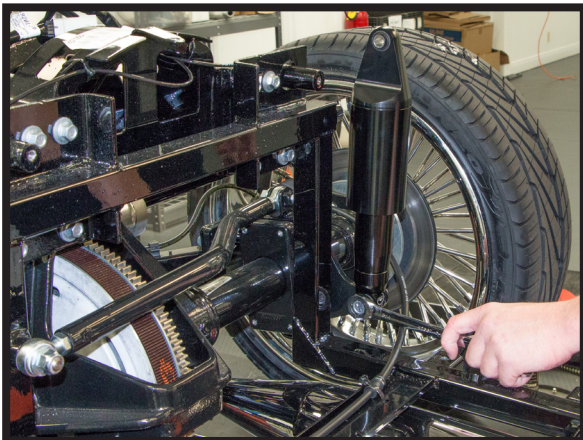

FIGURE 21
8. REUSING THE O.E. HARDWARE, INSTALL THE NEW AIR SHOCKS IN THE REVERSE ORDER OF REMOVAL WITH THE AIR PORTS FACING TOWARD THE OUTSIDE OF THE BIKE. (FIGURES 21, 22)